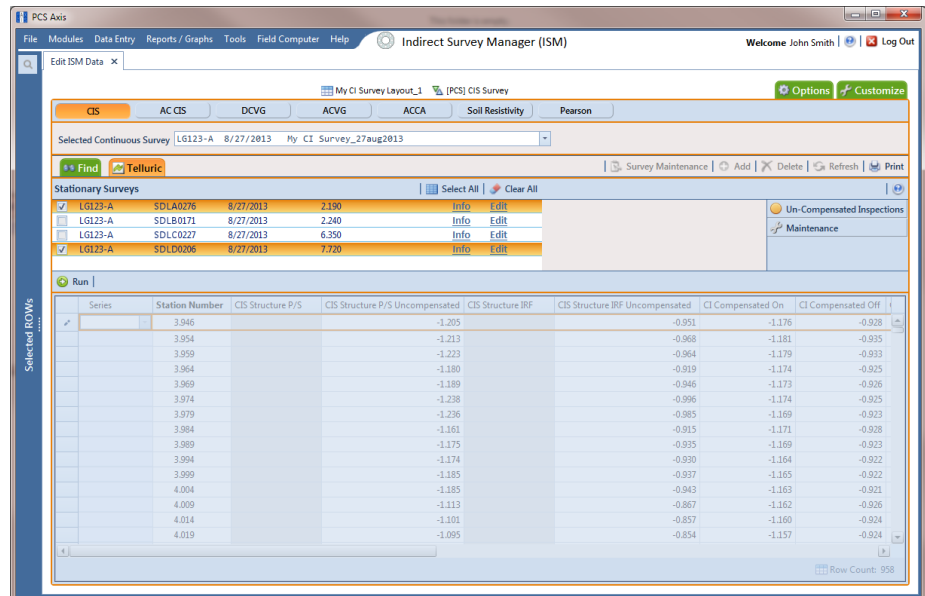

Figure 14-33. Telluric Workspace
- a Select the SDL upstream/downstream data set pair to use in the compensation run. Click the check box associated with the upstream and downstream SDL survey files (Figure 14-33).